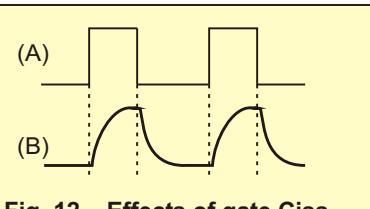

Fig. 12 – Effects of gate Ciss
Applying a square wave to the gate, C_{iss} must charge before the voltage appears across the gate-source junction. This is illustrated in **Figure 12**, where (A) is the input square wave, and (B) is the true gate voltage, that is, the voltage impressed across the internal gate capacitance. The resulting drain current would appear virtually the same as waveform (B).